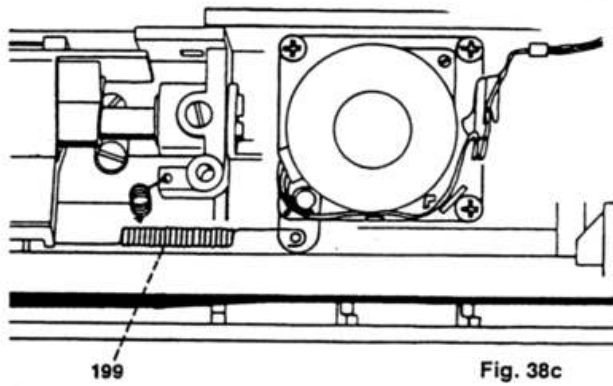

Fig. 38c
- Disconnect pull-spring 199 at the transverse-drive stepping motor (fig. 38c).